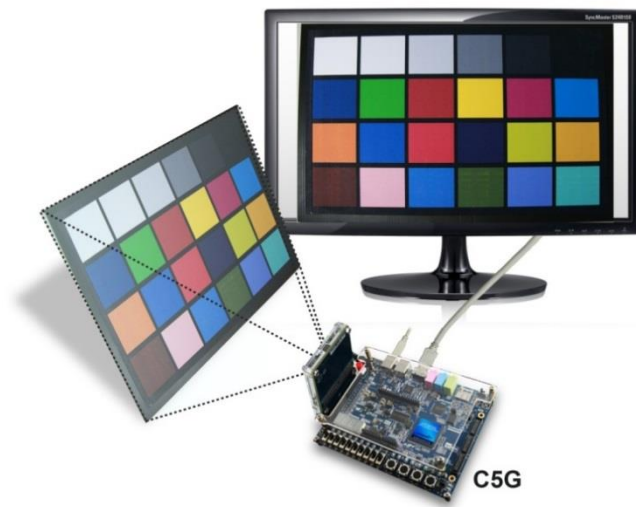

Figure 5-10 Setup Connection of DE1_SOC_D8M_VIP demonstration
- Connect a USB cable between the host PC and the USB connector (J10) on the C5G board (See Figure 5-10).